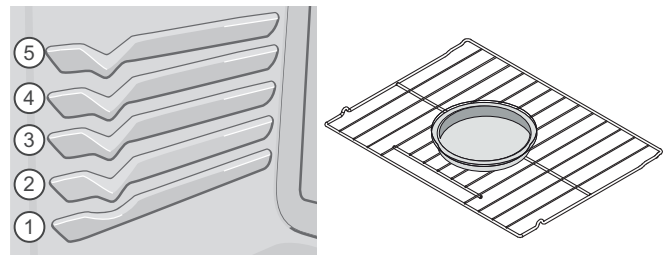

Figure 10: Oven rack positions; single rack baking
- Always place food in center of the oven on rack position 2 (Glide rack) or 3 (Flat rack) (Figure 10). Place the food as shown in Figure 10.